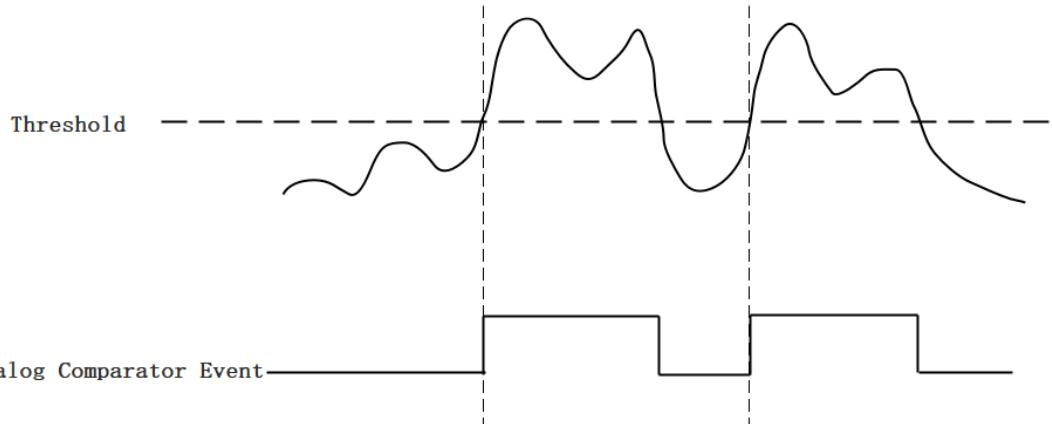

Figure 17 Rising Slope Trigger
*Rising Slope Trigger:* The Edge comparator output is high when the signal goes above the threshold; the output is low when the signal goes below the threshold as shown in Figure 17.